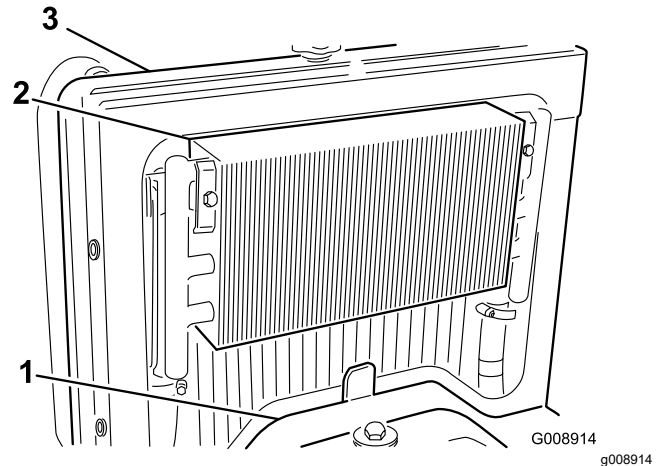

Figure 52
2. Remove the access panel (Figure 52).